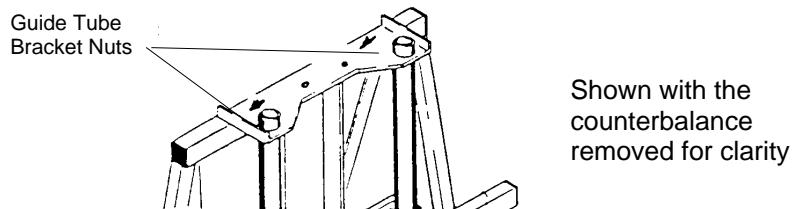

Figure 34: Aligning the Guide Tubes
1. Mark the frame on the outside of the guide tube bracket for a starting reference point. Loosen the guide tube bracket nuts (Figure 34), but **do not remove** the bracket. Using a dead blow mallet, strike the bracket on the side and in the direction you wish the guides to go. **Do not strike the guides**.